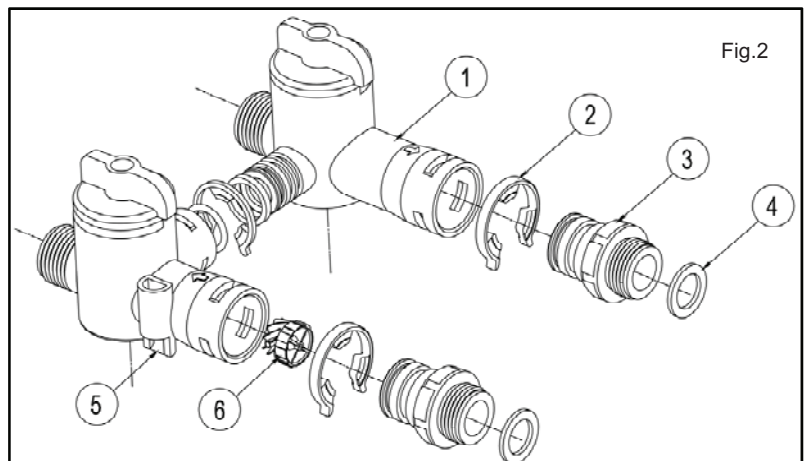

Fig.2
The by-pass assembly is formed with 2 compact bodies (1), 2 toothed rings (2), 2 connectors of 1 " (3), 2 flat joints (4) and 1 volumetric meter (6). (Fig. 2)